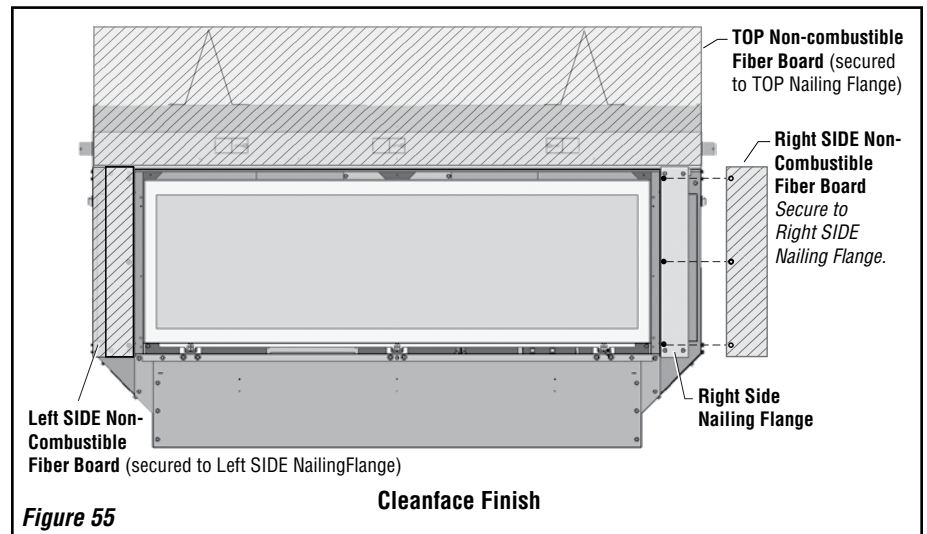

Figure 55
- LEFT/RIGHT SIDE NAILING FLANGES:** Make sure the LEFT and RIGHT SIDE Nailing Flanges are **installed** (see **Figure 55**).
- NON-COMBUSTIBLE FIBER BOARD:** See **Figures 55 (this page) and 56 (next page)**. Attach the longer piece of fiber board to the TOP Nailing Flange, and secure using field-supplied screws. Attach the two shorter pieces of fiber board VERTICALLY to the LEFT and RIGHT SIDE Nailing Flanges using field-supplied screws through the counter-sunk holes in the fiber board.